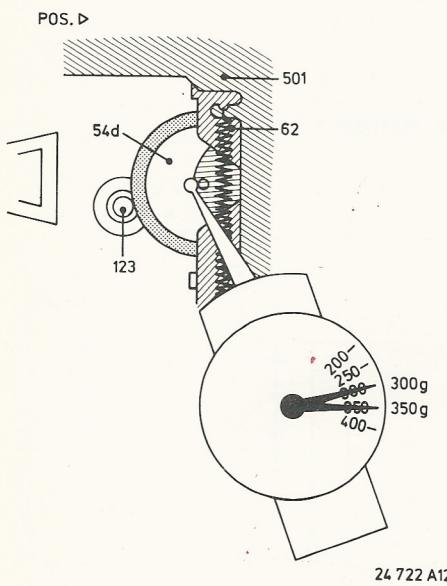

Fig. 11
5. Pressure roller 54d (Figs 11, 12)